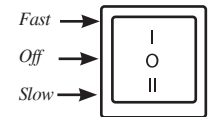

FIGURE 2
2. Slowly insert a piece of dough through the **Smooth Rollers**, then through the **Cutters**. Repeat this process several times. Discard the dough when the unit is clean. *Figure 2* Follow the *“Using the Pasta Machine”* instructions in this booklet for more information.